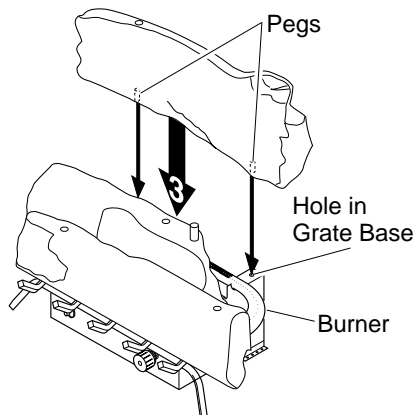

Figure 26 - Installing Rear Log (#3)
3. Locate pegs on the bottom of back log (#3). Slide these pegs into the holes in the grate base behind the burner (see Figure 26).